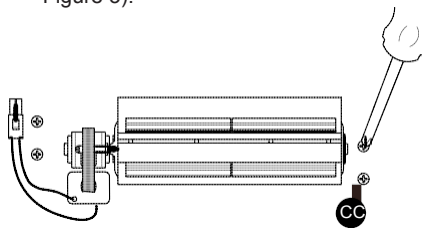

Figure 3 - Attaching Blower to Top Cover
3. Attach the blower assembly to the top cover with 4) M4.2X8 screws (CC) (see Figure 3).